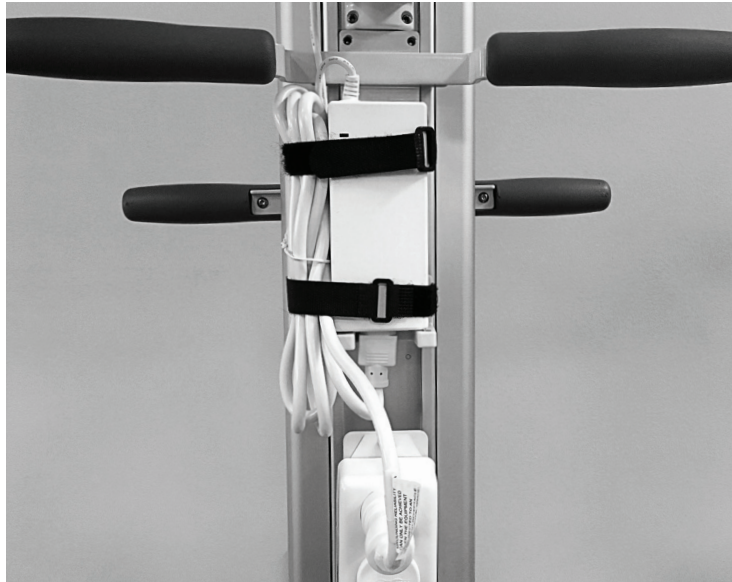

Figure 20: Final Configuration
3. Plug the Power Cord into the Power Strip, and secure the excess cable with the straps on the Power Adapter Mount. See Figure 20.